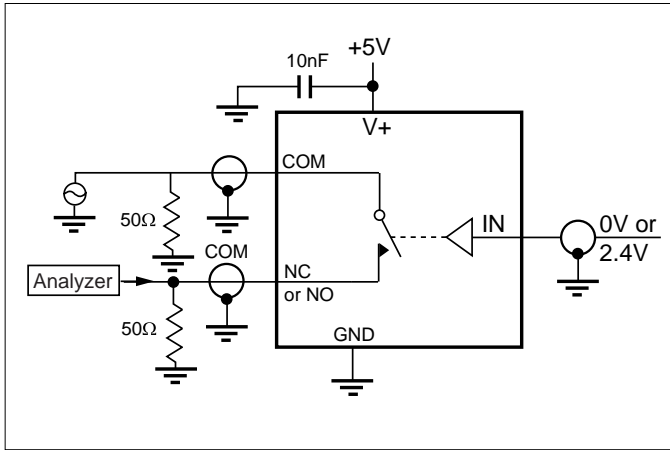

Figure 3. Off Isolation
7. Off Isolation = 20log₁₀ [V_{COM} / (V_{NO} or V_{NC})]. See figure 3.